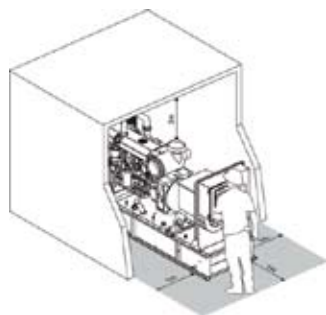

Figure 4b – Typical Installation showing Generator set Access & Operator Workstation
- Clearance around the generator set for cooling and access for service: at least 1 metre (3.3 feet) around the set and at least 2 metres (6.6 feet) headroom above the set. (See Figure 4b)